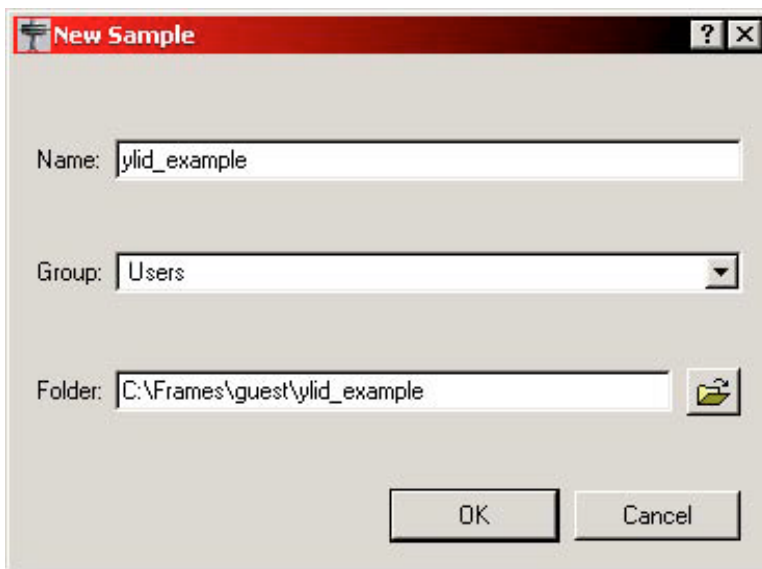

Figure 7
- 10) Click icon APEX2 on the desktop and select **Sample > New**, a window will pop up (Figure 7).